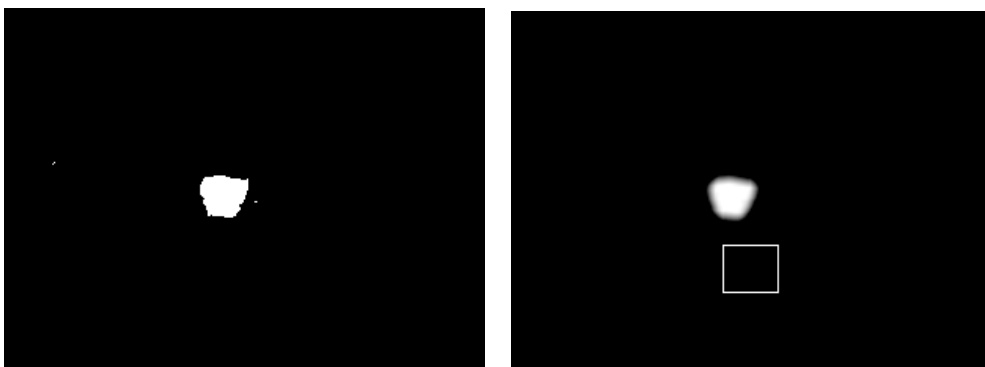

Figure 5: Left: An example of our image after the first processing. Right: After the second processing. The square is just debug output.
OpenCV placed the pixels that were in the right HSV range in a new picture. This picture had a value of 1 on the pixel where our color-values were good, and a value of 0 where they were bad. This resulted in a white blob where almost every white pixel was on our object. Something like figure 5. Unfortunately the computer can not understand this. We still need to let the Ar Drone© know where the object is in this picture. To find the centre of the object, we tried histogram backprojection.
Therefore we tried a different, somewhat simpler method, called “Template Matching”. This is a bit like histogram backprojection, but instead of using histograms, we use a template of the object we wanted to see. This is a somewhat less complicated method and it works a little bit less well but it did the trick. And since we already had an image that was only black or white (0 or 1), our template simply had to be a white square. This would match the white space in our image, but not a single white pixel. This resulted in an image like in figure 5. As you can see, the edges are a bit fuzzy. Now we can use the OpenCV function “minMaxLoc” to locate the centre of the object, which is the brightest pixel in the image.
- Put the centre of the object in a specified square (the white square in figure 5).